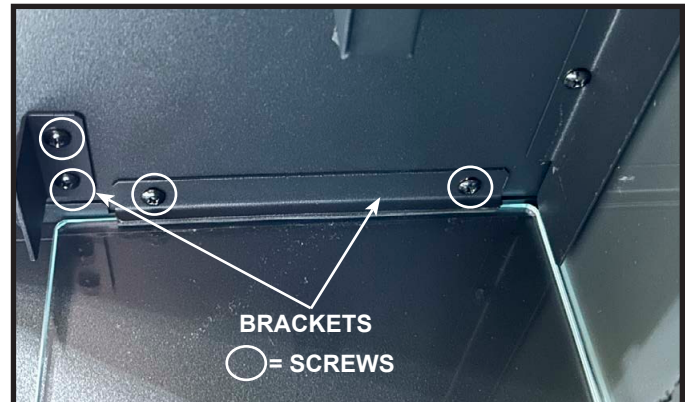

Figure 9 Side Glass Panel Removal
4. Remove screws (4) and brackets (2) holding each of the side panels. See Figure 9.
6. Replace the side glass panel, sliding the side glass panel as far back as possible, and reinstall the brackets, see Figure 9.